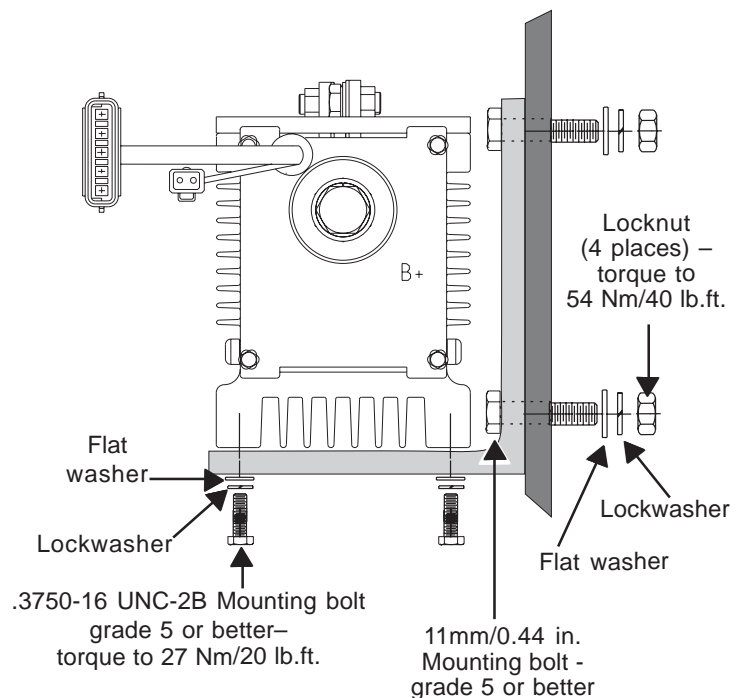

Figure 2 - Rectifier and Bracket Installation
3. Use hardened washers between aluminum surfaces and bolt heads and nuts. Bracket mounting bolts must have minimum .50 in. thread engagement. See Figure 2 for torque values.